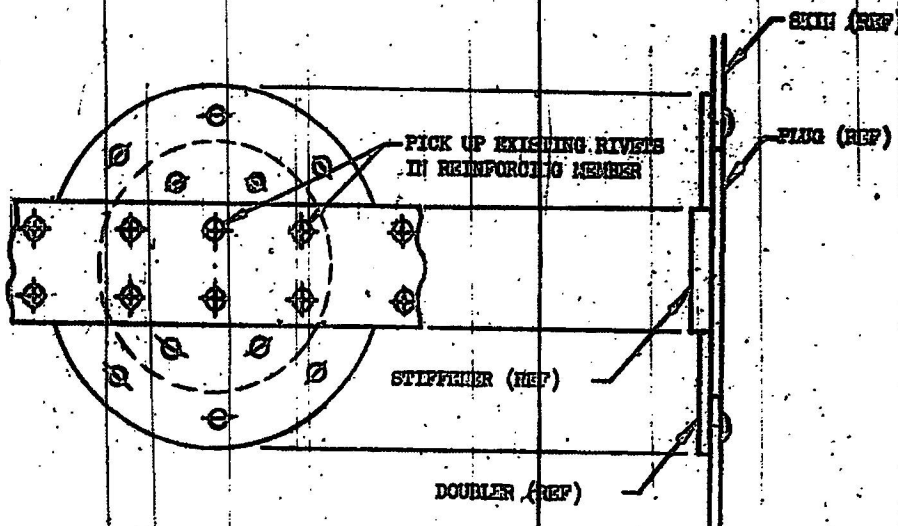

FIGURE 8
- (j) Damaged skin adjacent to structural members requiring repairs will be patched as shown in Figure 8 of this specification.